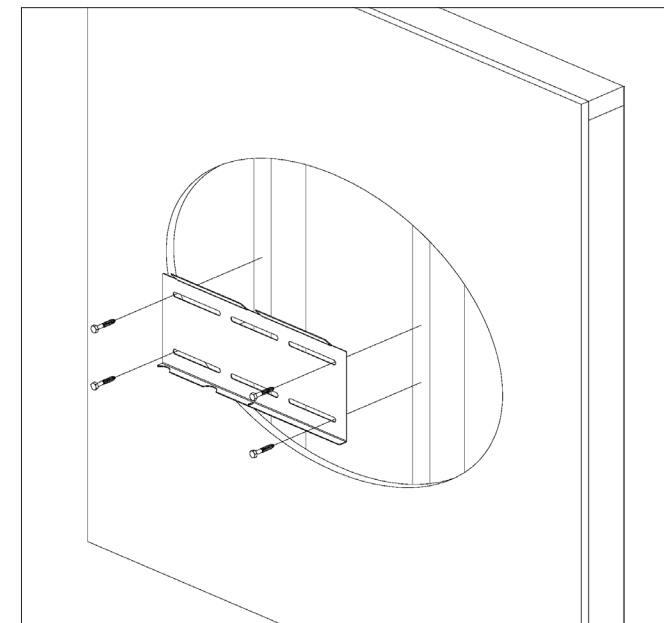

Fig. 2
- F. Hang the WOPS unit on the mounting plate. The flanges of the mounting plate should insert through the slots on the back of the WOPS unit. Once the mounting plate has received the WOPS unit, secure the mounting plate to the pump station with the bottom locking screw (see figure 2 above).